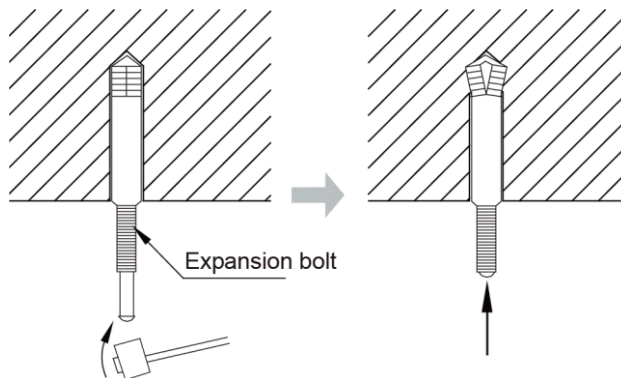

Fig 3
2. Insert the M10 expansion bolt into the hole and then knock the nail into the bolt, as shown in fig 3, and then remove the paper pattern.